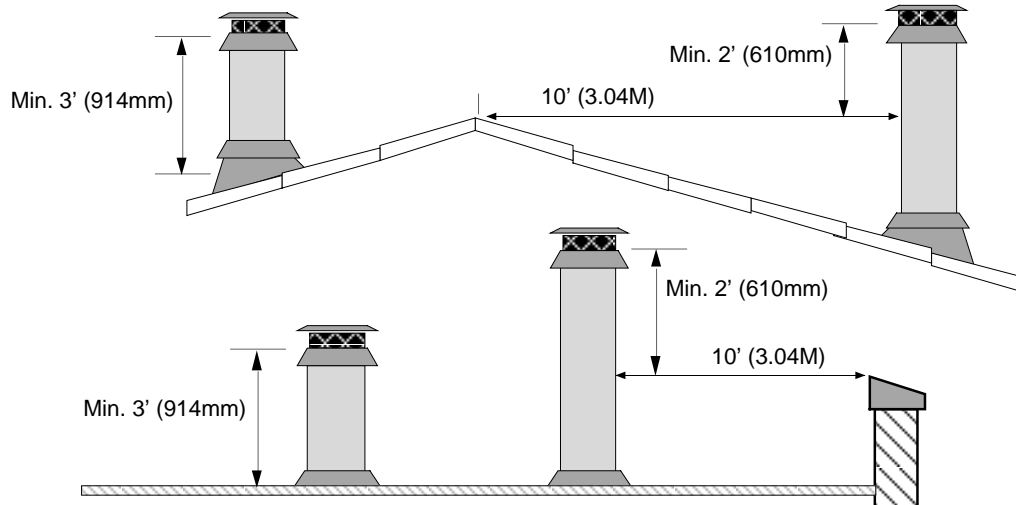

Figure 7
- Must terminate at least 3' (914mm) above the roof **and** at least 2' (610mm) above any portion of the roof within 10' (3.04M) - see Figure 7.